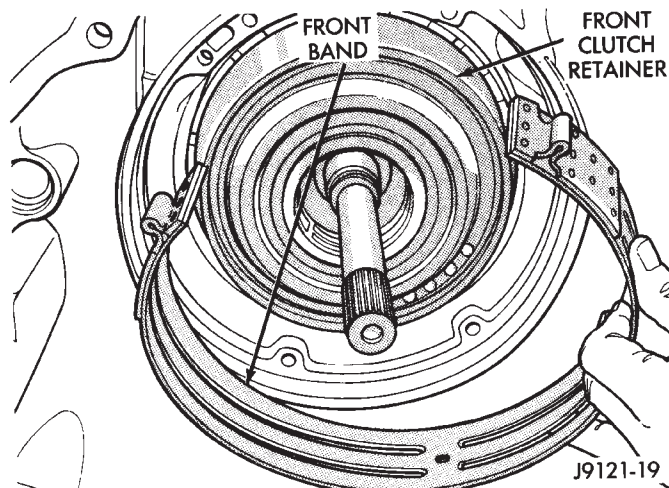

Fig. 107 Front Band
(18) Squeeze front band together slightly and slide band over front clutch retainer and out of case (Fig. 107).